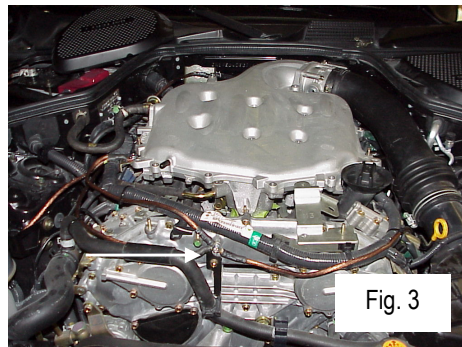

Fig. 3
5. With the remaining terminal, route around the front corner of engine towards center of timing chain cover (Fig. 3). There is a 6mm boss above and slightly to the right of the rectangular hole in the timing case cover. Route the cable towards it, but do not attach yet. There will be two more cables routed to that point later.